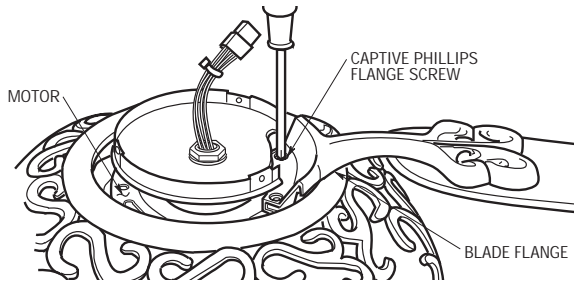

Figure 6
- 9. Loosely attach one blade assembly to the motor using the two captive Phillips flange screws (Figure 6). Make sure the screws are NOT tightened. Repeat this procedure for the other four blade assemblies.